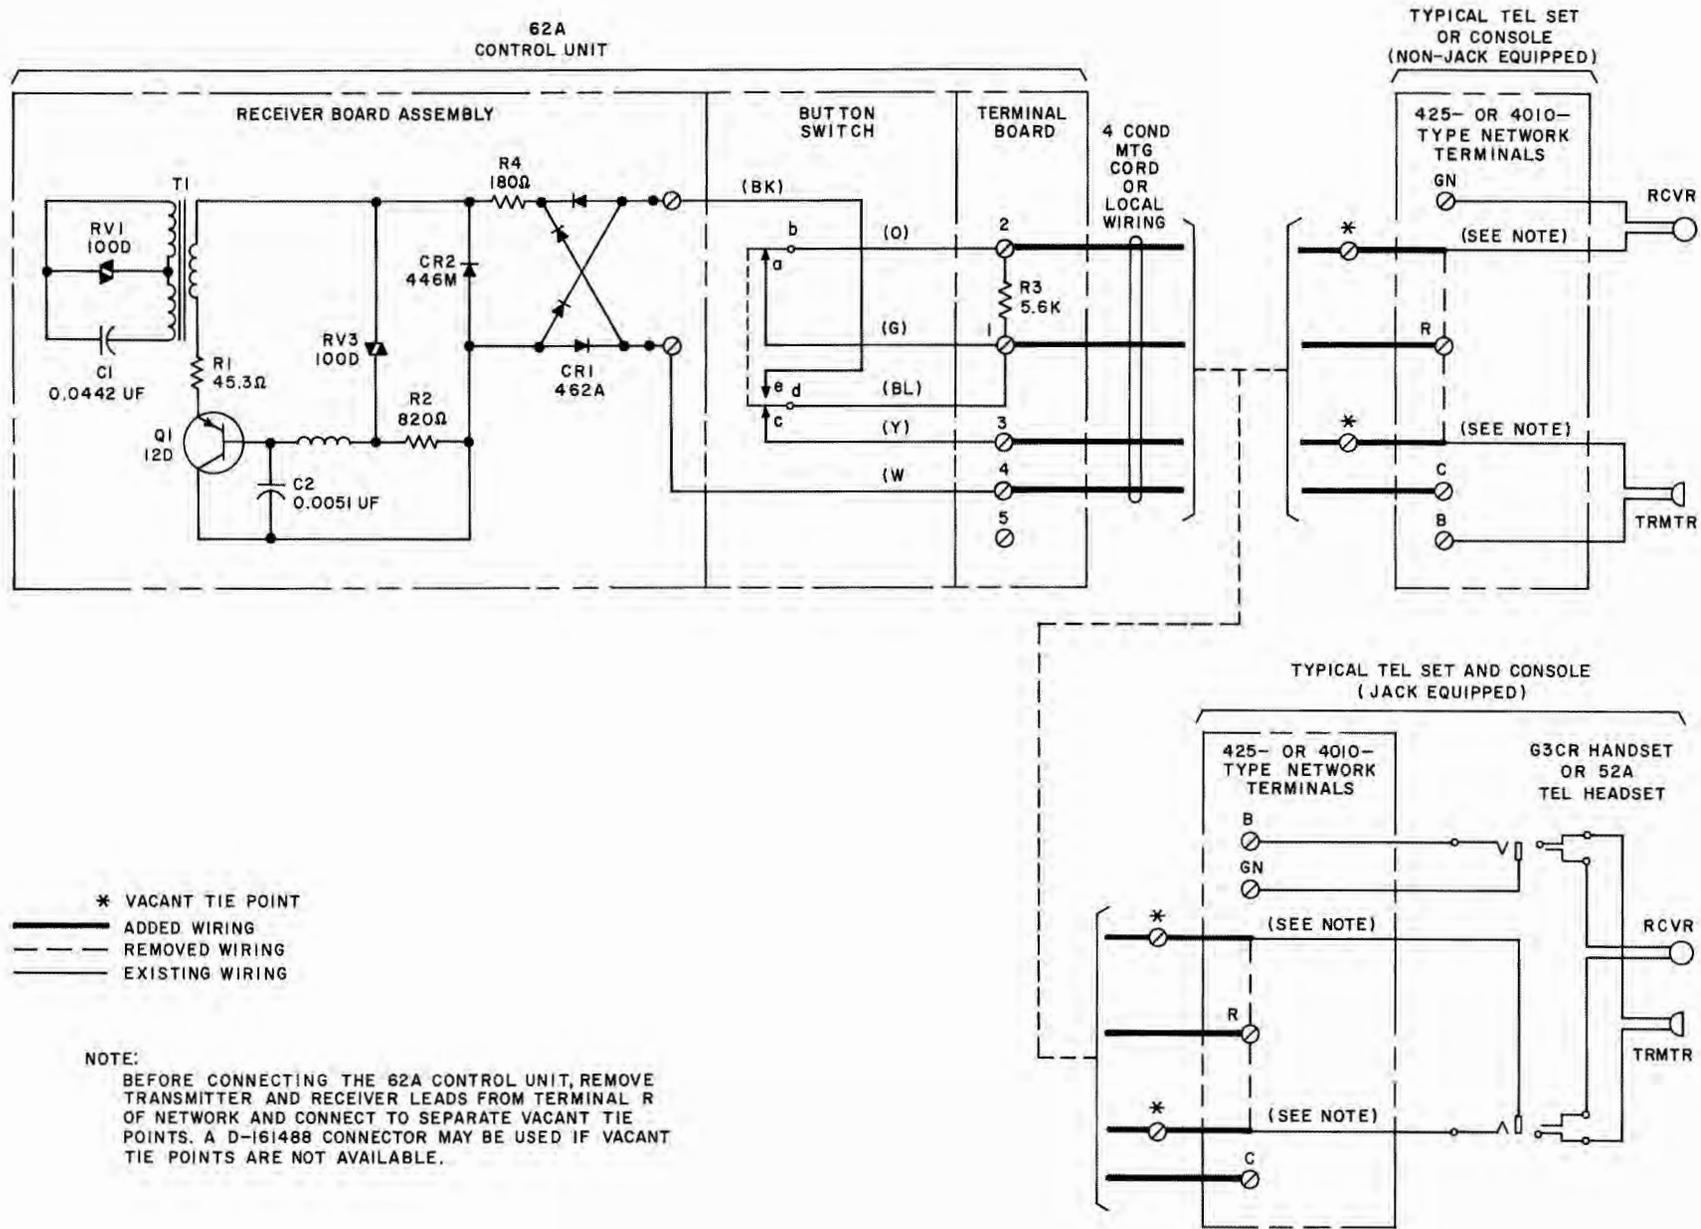

Fig. 3—62A Control Unit, Connections
- 4.01** Refer to Fig. 3 when connecting control unit to station sets equipped with 425- or 4010-type networks.